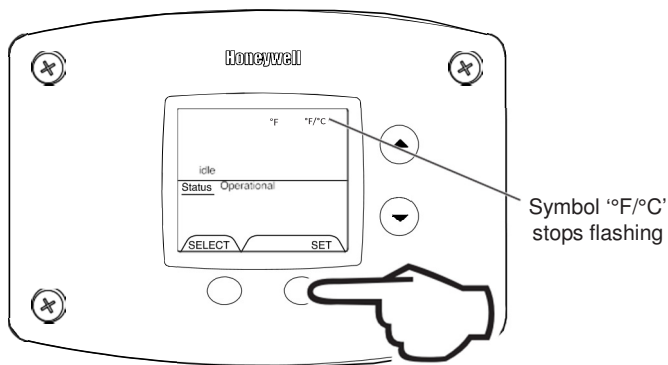

Fig. 24
4. Press 'SET' button to confirm °F or °C format. F°/ °C will stop flashing. Setpoint display will appear in the format selected (°F or °C) in 10 seconds (Fig. 24).